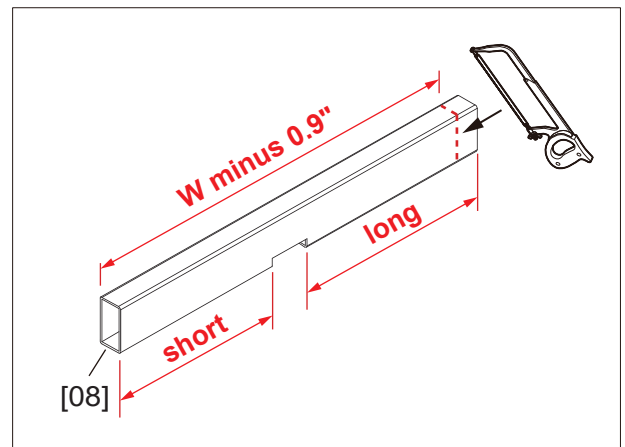

Fig 1.2
2. Measure from both side of **Bottom Rail [08]** to the slot. Measure **W minus 0.9"** from the short side and cut the rest. (Fig 1.2)